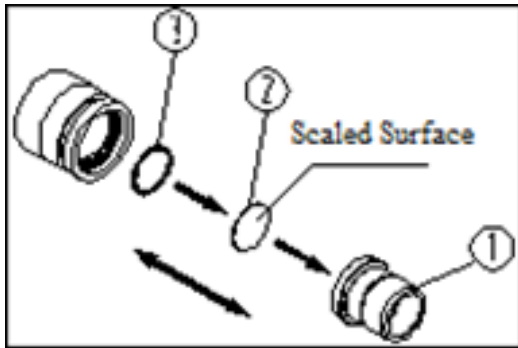

Fig.6
1. Unscrew the pressure ring from eyepiece (see Fig. 6).
2. Clean the reticle, then install it into the pressure ring with the scaled surface upward (see Fig. 6).